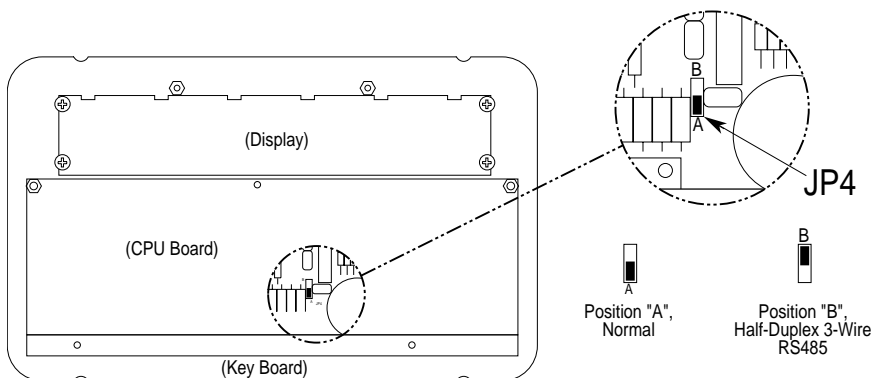

Figure 3 OIT3200/3250 Jumper Installation
2. Locate jumper “JP4” using Figure 3 as a guide. The jumper is installed on the lower two pins of a 3-pin header. This is called Position “A”.